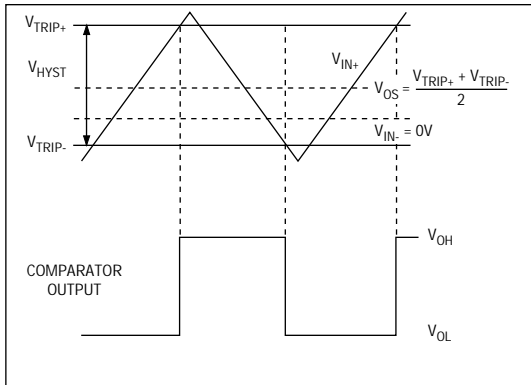

Figure 1. Input and Output Waveforms, Noninverting Input Varied
- Note 1:** Trip Point is defined as the input voltage required to make the comparator output change state. The difference between upper (V_{TRIP+}) and lower (V_{TRIP-}) trip points is equal to the width of the input-referred hysteresis zone (V_{HYST}). Specified for an input common-mode voltage (V_{CM}) of 0V. See Figure 1.
- Note 2:** Input Offset Voltage is defined as the center of the input-referred hysteresis zone. Specified for V_{CM} = 0V. See Figure 1.
Adding hysteresis to a comparator creates two trip points: one for the input voltage rising and one for the input voltage falling (Figure 1). The difference between these two input-referred trip points is the hysteresis.
Figure 1 illustrates the case where IN- is fixed and IN+ is varied. If the inputs were reversed, the figure would look the same, except the output would be inverted.